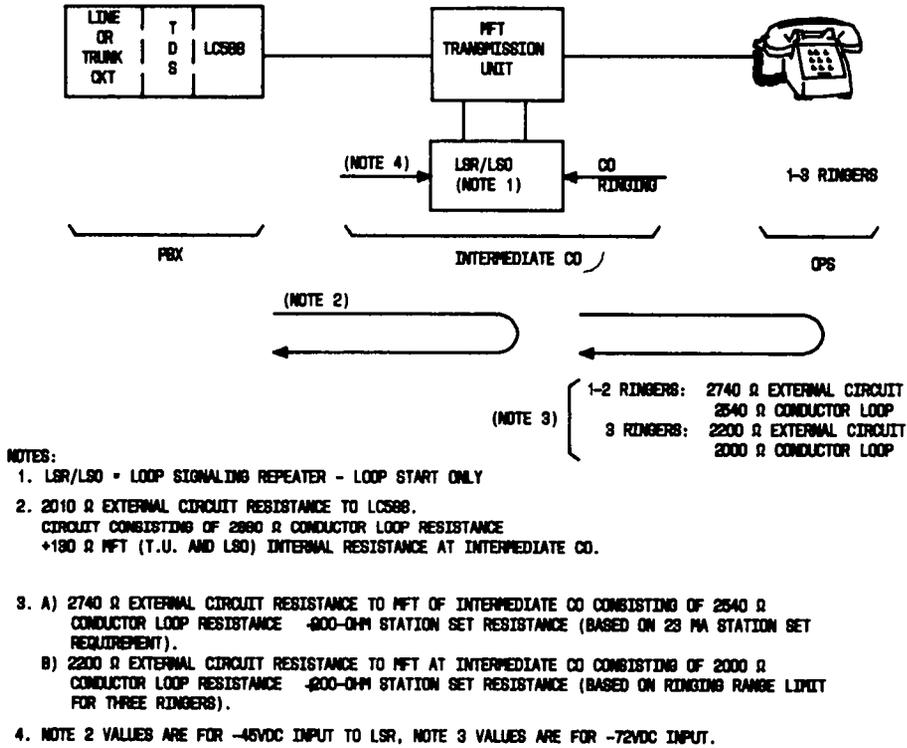

Fig. 36—Loop Start Only (LSO) at CO in OPS Line
6.57 The dc signaling range of the station loops can also be increased by the installation of a loop signaling repeater/loop start only (LSR/LSO). Where only one repeater is necessary, it is recommended that a 2-to-2 intermediate repeater be used at the serving office or intermediate CO for a 2-wire off-premises station installation (Fig. 36 and 37). Use of the 2-to-2 terminal repeater at either the PBX or station is not advisable in one repeater application. If more than one repeater is needed between the station and its CO, 4-wire facilities should be used. Typical 2- and 4-wire metallic facility installations are shown on Fig. 38. Different combinations of 2-to-4-wire units can also be used by specifying the appropriate 2-4 wire or 4-2 wire intermediate or terminal repeater at the 2-wire to 4-wire range from the LSR to station is defined in SD-1C359-01.